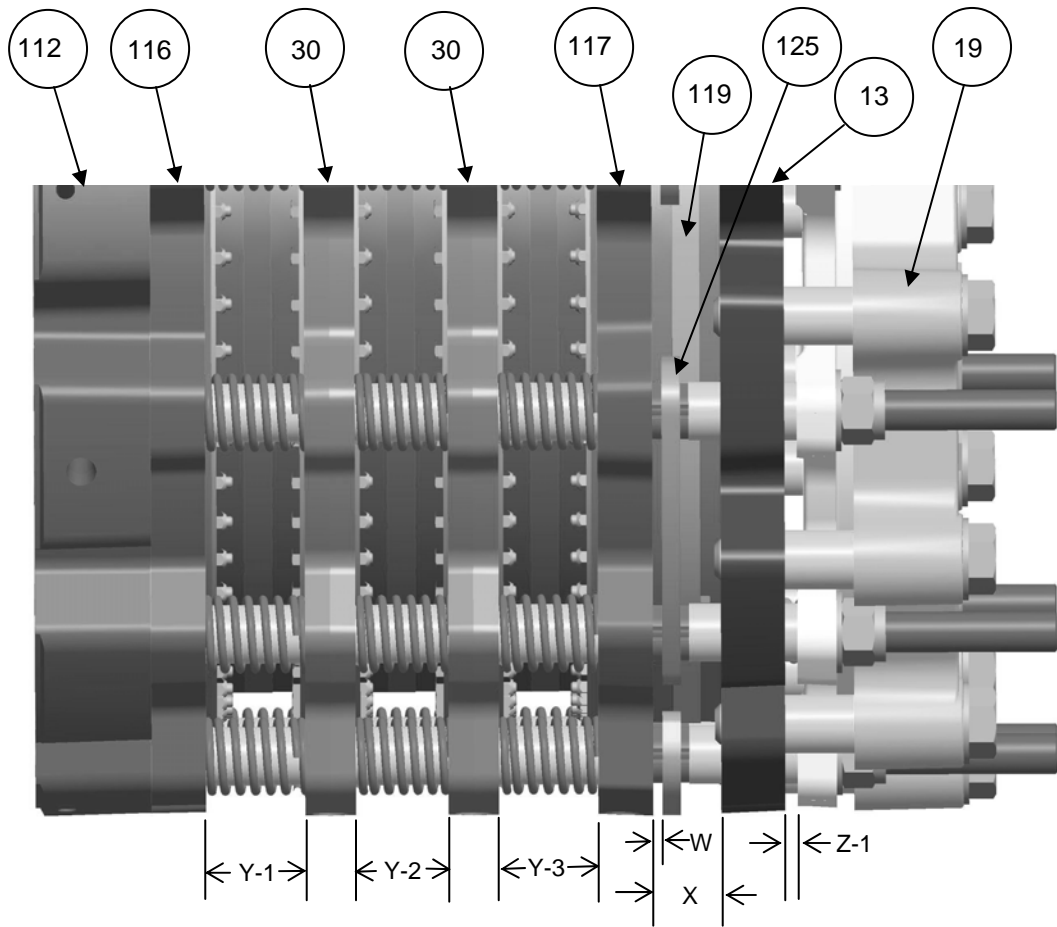

Fig. 6
- c) Verify that the air pressure has been fully exhausted from these chambers by checking any in-line gauges (they should read zero pressure), and also by inspecting specific gaps between components as noted below. Refer to Figures 6 and 6a for the corresponding gap locations.
- d) Measure gaps between the components at positions W, X, Y-1, and if applicable, Y-2, and Y-3. See Figures 6, and 6a for the location of those gap positions.